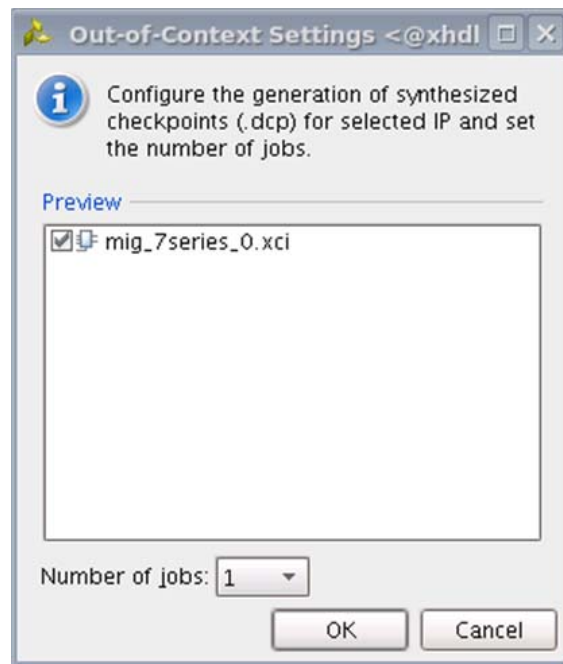

Figure 2-29: **Out-of-Context Settings Window**
2. Click **Out-of-Context Settings** to configure generation of synthesized checkpoints. To enable the **Out-of-Context** flow, enable the check box. To disable the **Out-of-Context** flow, disable the check box. The default option is "enable" as shown in Figure 2-29.